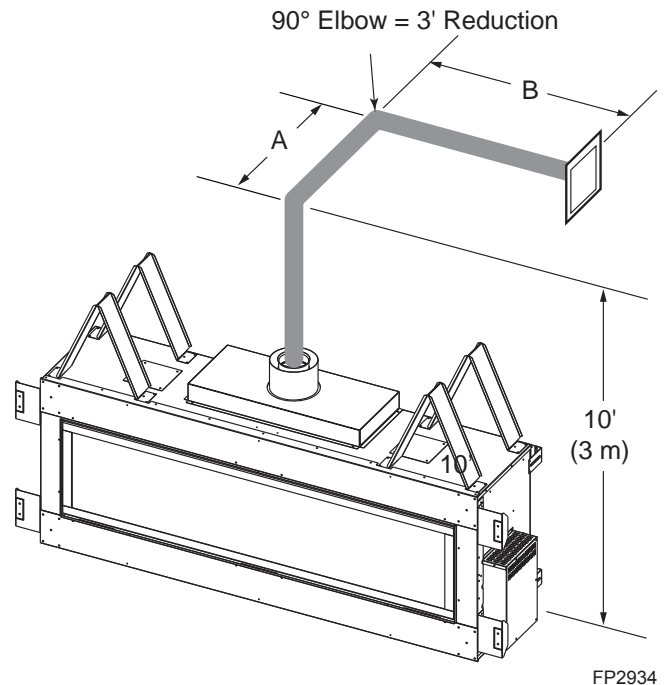

Figure 20 - Horizontal Run Reduction
- If a 90° elbow is used in the horizontal vent run (level height maintained) the horizontal vent length is reduced by 36". Refer to *Figures 20 and 21*. This does not apply if the 90° elbows are used to increase or redirect a vertical rise. *Figure 20*
In *Figures 20 and 21* dimension A plus B must not be greater than 17' (5.2 m).